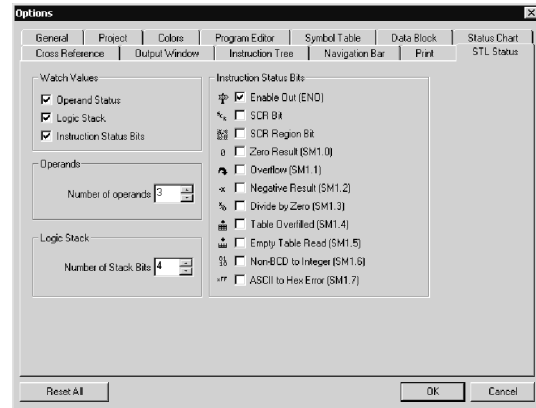

Figure 8-3 Options for Displaying STL Status
STEP 7-Micro/WIN allows you to display the status of a variety of parameters for the STL instructions. Select the **Tools > Options** menu command and then select the STL Status tab. See Figure 8-3.